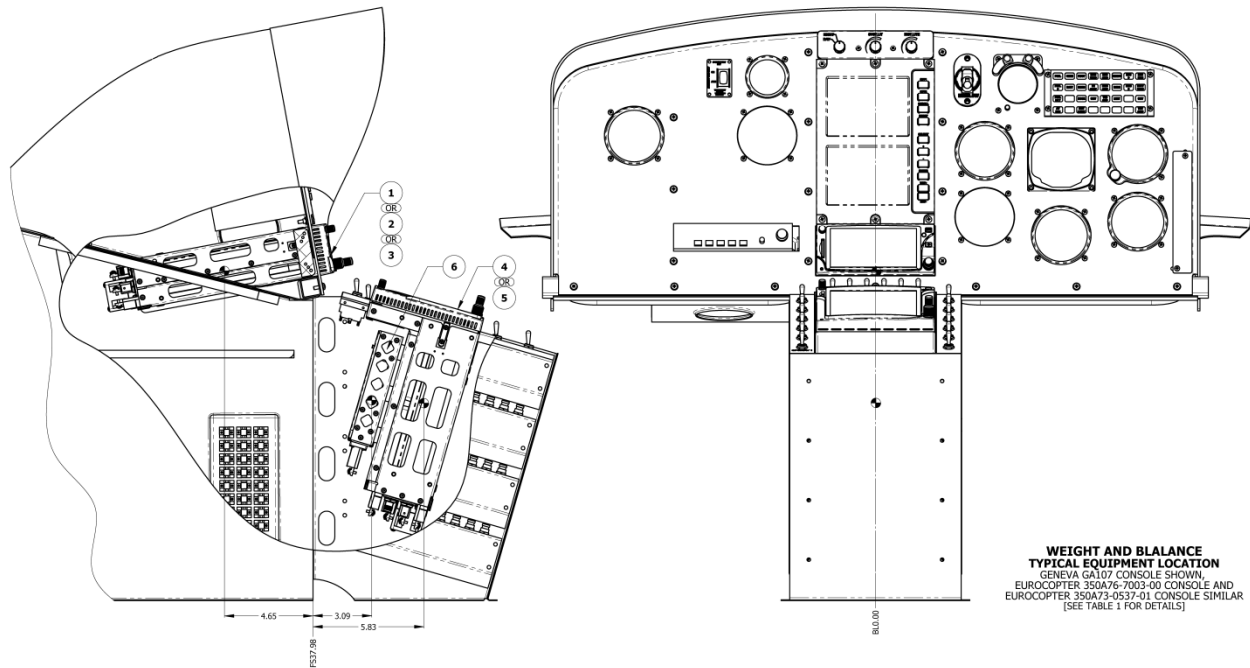

Figure 9. GTN and GMA 35 FS and BL Location
The location of GTN navigator and optional GMA 35 audio panel in reference to rotorcraft fuselage station (FS) and butt line (BL) is shown in Figure 9 with corresponding lateral and longitudinal arms and moments detailed in Table 6.